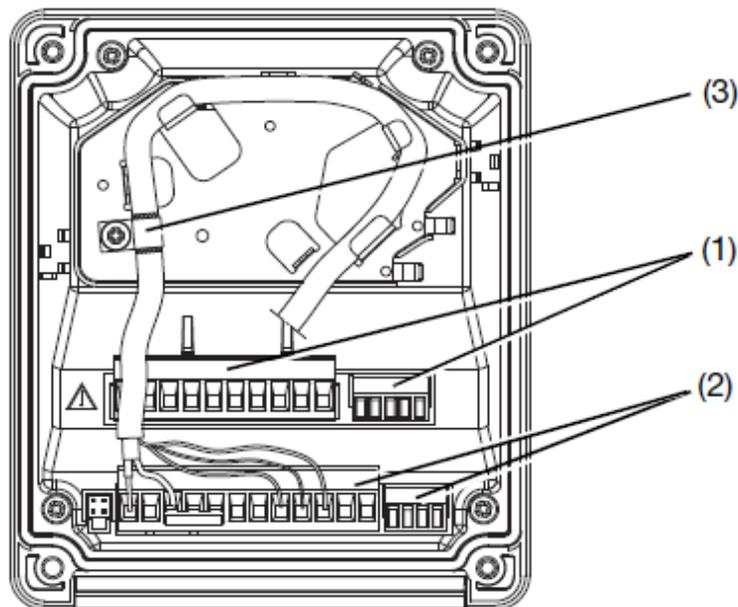

Fig. D-3 Circuit diagram
4. The components of the pH value or redox monitoring equipment included in the scope of delivery are connected in the factory to the measuring transducer (circuit diagram Fig. D-3) ready for use.